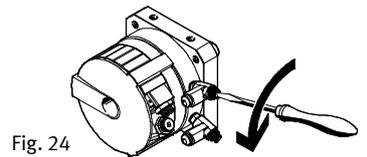

Fig. 24
6. Unscrew the one-way flow control valves slowly (Fig. 24), until the desired swivel speed is set. The stop lever should reach the end position safely, but not strike hard against it.